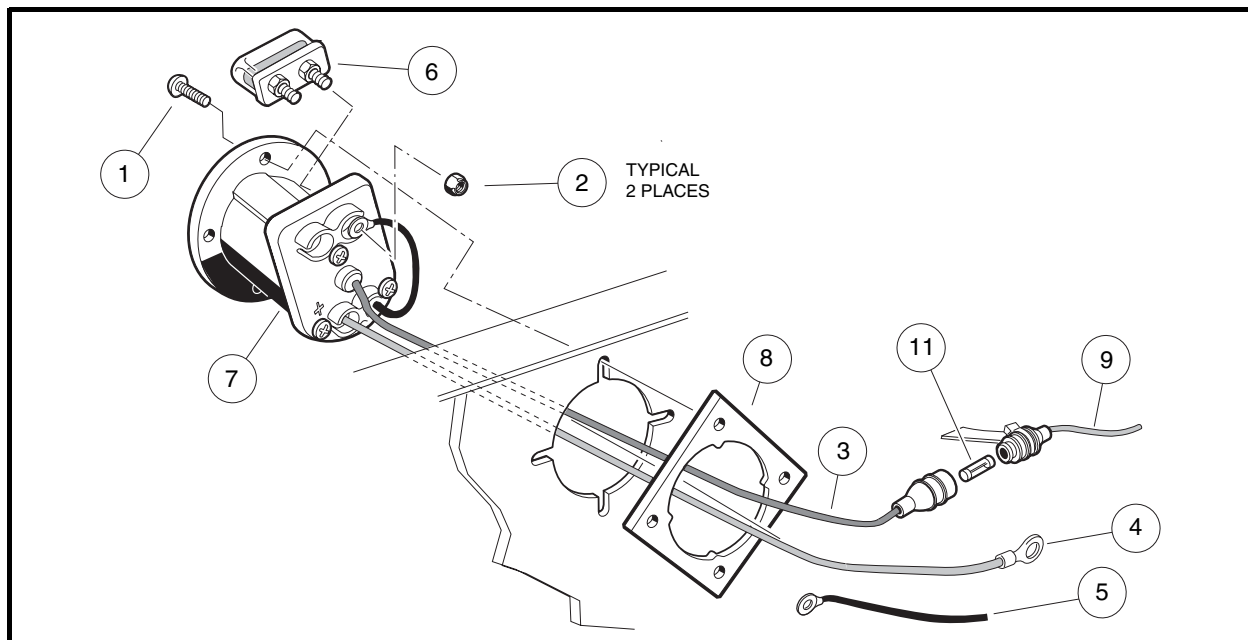

Figure 13-9 Charger Receptacle
2. Remove the 10-gauge red wire (4) from the positive post of battery no. 1 (**Figure 13-9, Page 13-12**).
3. Remove black 10-gauge OBC wire (5) from charger receptacle.
4. Disconnect the gray wire (9) from the receptacle at the yellow fuse holder.
5. Remove the four screws (1) that secure the charger receptacle bezel (7) to the receptacle backing plate (8) and to the vehicle body.
1. Insert the 10-gauge red wire (4) and the 18-gauge gray wire (3) through the hole in the vehicle body and the receptacle backing plate (**Figure 13-9, Page 13-12**).
3. Install the four screws (1) that secure the receptacle to the vehicle body and receptacle backing plate (8). Tighten screws to 16 in-lb (1.8 N·m).
4. Connect 18-gauge gray wire (9) to yellow fuse holder. Make sure fuse (11) is installed in fuse holder.
5. Connect the 10-gauge black wire (5) to the receptacle fuse link (6) on the charger receptacle (**Figure 13-9, Page 13-12**). Tighten to 23 in-lb (2.6 N·m).
6. Connect the 10-gauge red wire (4) to the positive post of battery no. 1.
The fuse link on the 48-volt Club Car electric vehicle should not blow under normal operating conditions; however, if the fuse link has blown, the vehicle will not charge and the fuse must be replaced. The fuse link (6) is mounted on top of the charger receptacle in the battery compartment (**Figure 13-9, Page 13-12**).
1. Remove the fuse link (6) from the charger receptacle (7) by removing the two nuts and washers used to secure the 10-gauge black wire (5) from the computer and the 10-gauge black wire to the receptacle (**Figure 13-9, Page 13-12**).
2. Remove the fuse link (6) from the charger receptacle.
3. Install nuts (2) on fuse link mounting posts and tighten to 23 in-lb (2.6 N·m) (**Figure 13-9, Page 13-12**).